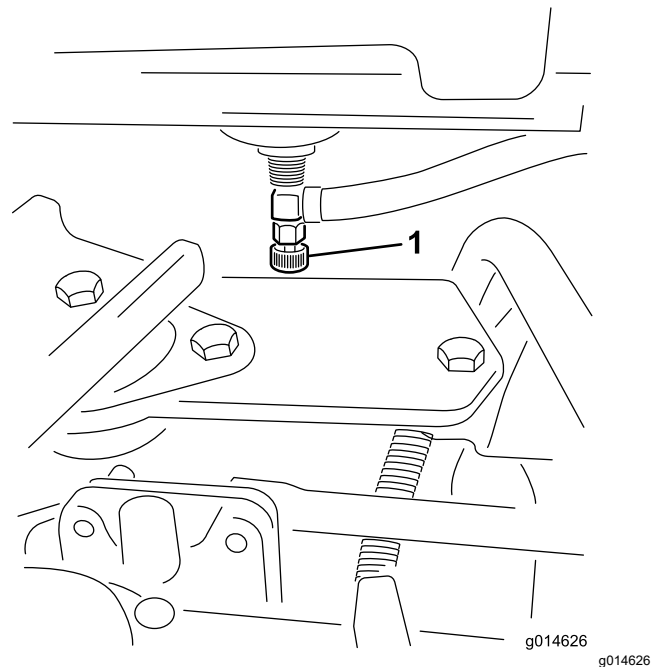

Figure 35
1. Close the fuel-shutoff valve (Figure 35) below the fuel tank.